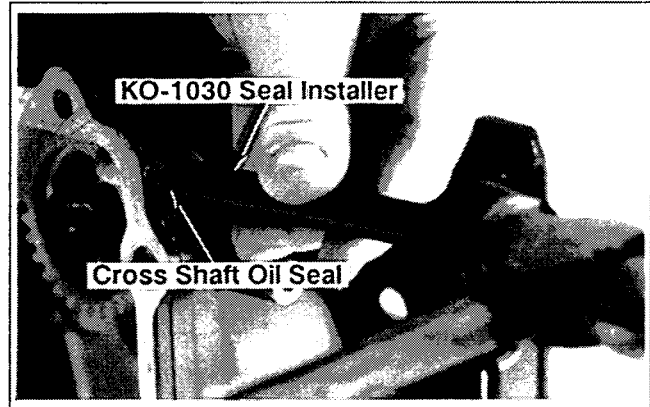

Figure 11-3. Cross Shaft Oil Seal.
3. Using the **KO-1030 oil seal installer**, install a new governor cross shaft oil seal into the crankcase. See Figure 11-3.